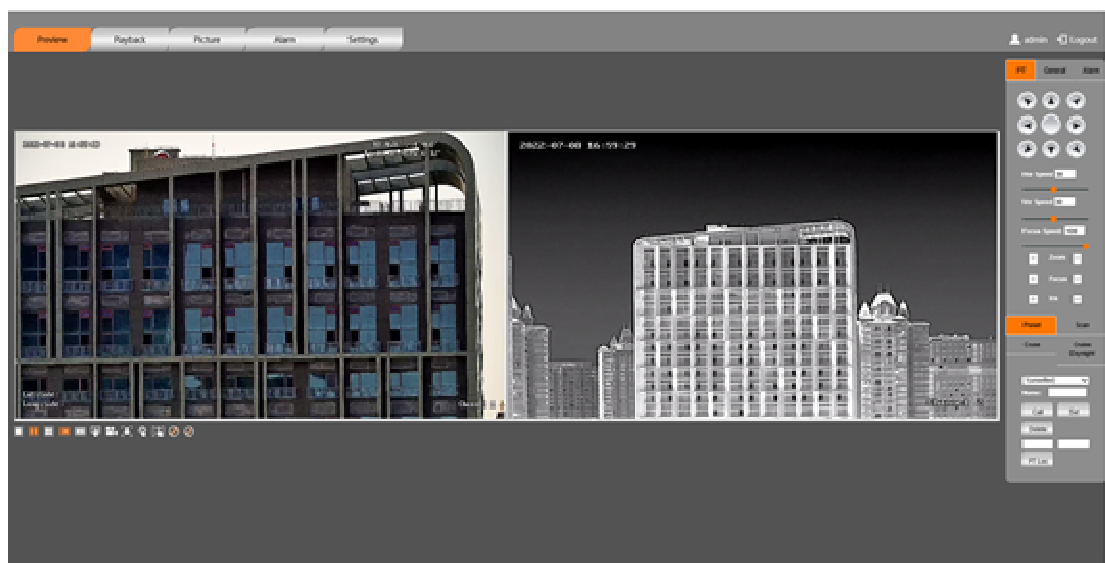

Figure 4-2 Preview
**Step 3**, Click Login. After the login is successful, the Preview screen is displayed, as shown in Figure 4-2.